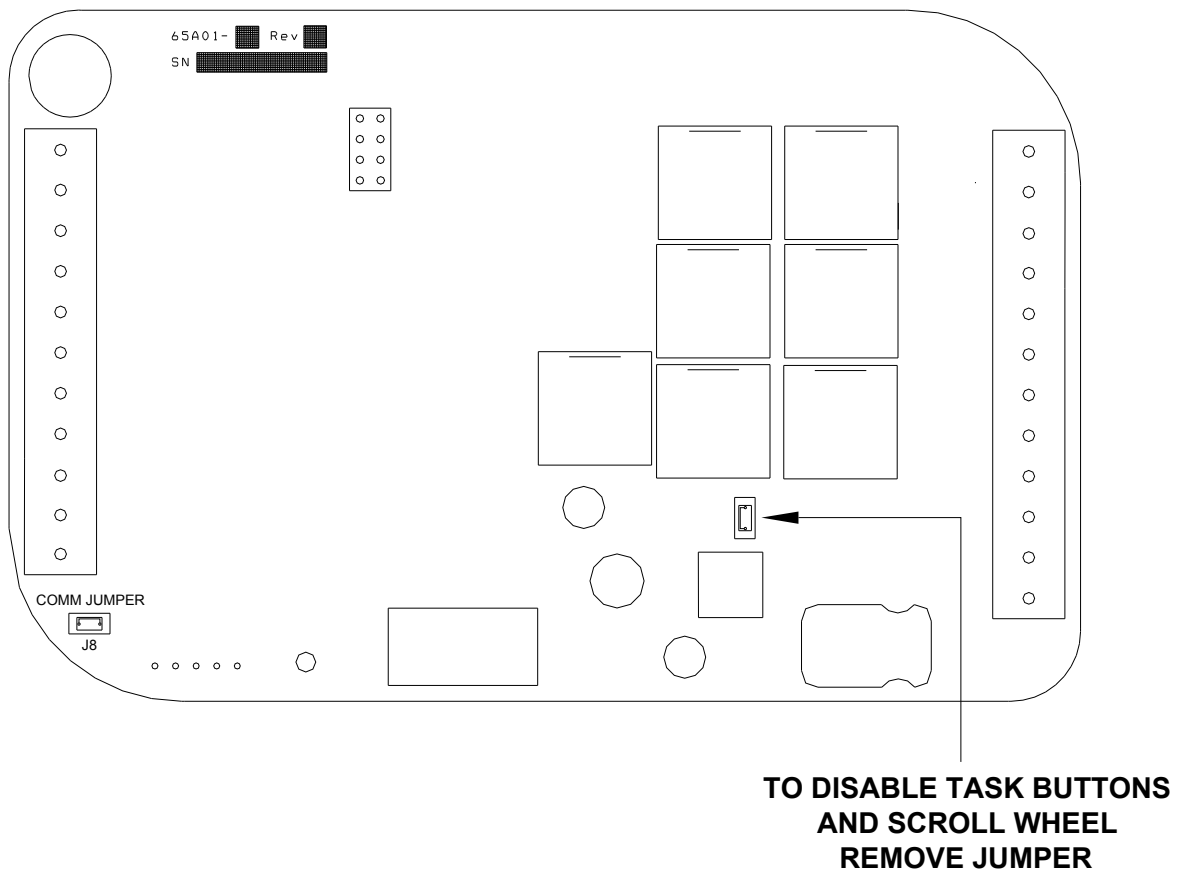

Figure 15 – *Local Control Jumper*
2. Remove the local control jumper - *See Figure 15.*